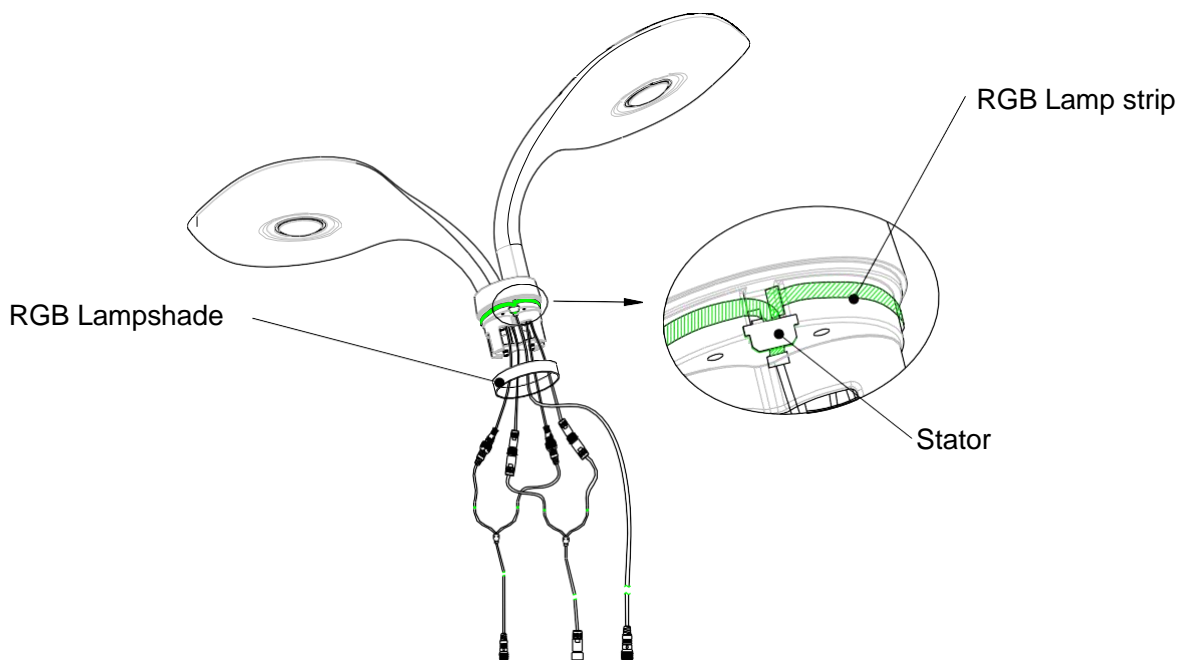

Figure 3
- ① According to the wiring diagram, join the solar panels cable, the lamp cable and adapter cable.
- ② Tear off the gum of RGB lights, to paste it into the lamp holder recess, while the stator stuck the RGB lights; cable go through RGB lampshade, then put the RGB lampshade covering the RGB lamp bar, as shown in Figure 3.
- ③ After locking the leaf modules and fixed holder, please tear off the protective film attached on the surface of solar panel.